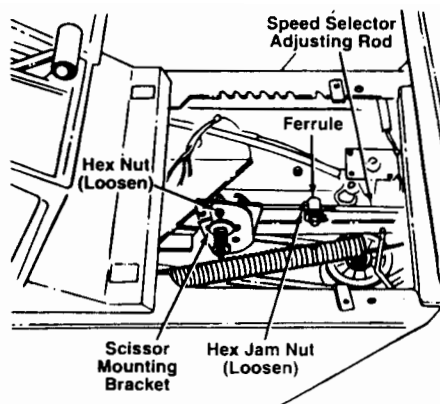

FIGURE 12
3. Loosen the hex jam nut on the speed selector adjusting rod. See figure 12.
4. Loosen the hex nut on the scissor mounting bracket. See figure 12.